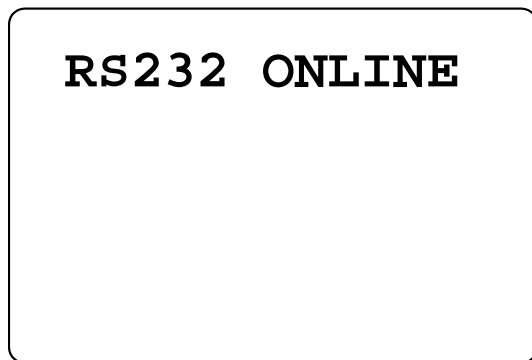

Figure 9-5
- After online, the picture of LCR Meter will be switched to “RS232 ONLINE”, please refer to Figure 9-5.